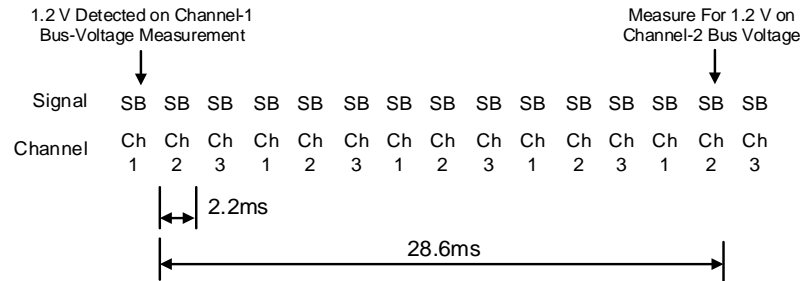
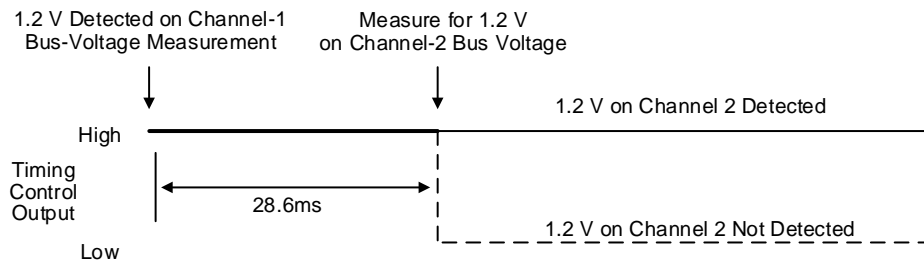

Figure 4. Timing Control Timing Diagram
Figure 5. Timing Control State Diagram
If, after completing four full cycles of all three channels, the SQ52210 does not detect a value of 1.2V or greater on the bus voltage measurement of Channel 2 following the detection of a 1.2V level on Channel 1, the timing control (TC) alert pin is pulled low. This indicates that the SQ52210 has not identified a valid power rail on Channel 2. As shown in Figure 4, the sequence described allows for approximately 28.6ms from the moment a 1.2V level is detected on Channel 1 for a valid voltage to be detected on Channel 2. The state diagram for the TC alert pin is illustrated in Figure 5.